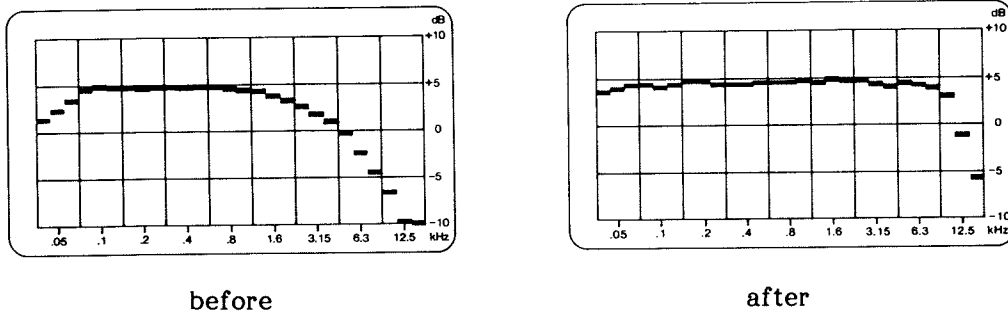

Fig. 2.18
- (i) After azimuth and h.f. have been optimised in (h), obtain flat h.f. response in left and right channels using the Optical Pre-amplifier (20) h.f. controls (Fig. 2.18). The response should be flat up to a limit determined by the slit size, with a rapid roll off above this frequency. Attempt to achieve a flat frequency response without any peaks, rather than an extended response with a small high frequency peak which may introduce audible coloration. Different results will be obtained from projector to projector, but in all cases a response flat to 10 kHz should be obtained. In cases of poor high frequency response, inspect the exciter lamp and slit lens assembly.